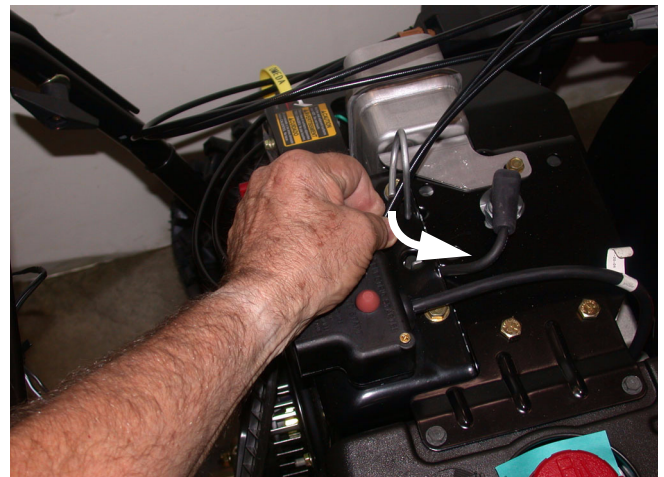

Figure 15.9
- 15.9. Slide the cables from the cable retainer positioned on the engine. See Figure 15.9.